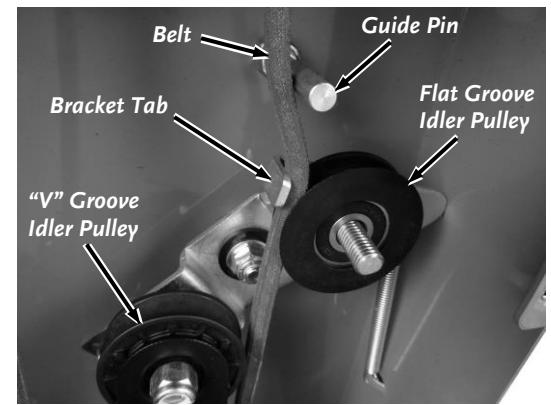

Figure 35
12. Install the small Spacer and flat Idler Pulley (**Figure 35**). Make sure you place the Belt correctly between the Idler Pulley, Bracket Tab, and Guide Pin.
The Belt must be installed on the inside of the guide Pin as shown in **Figure 35**. If it is not installed on the inside the Trimmer Head will not function correctly.